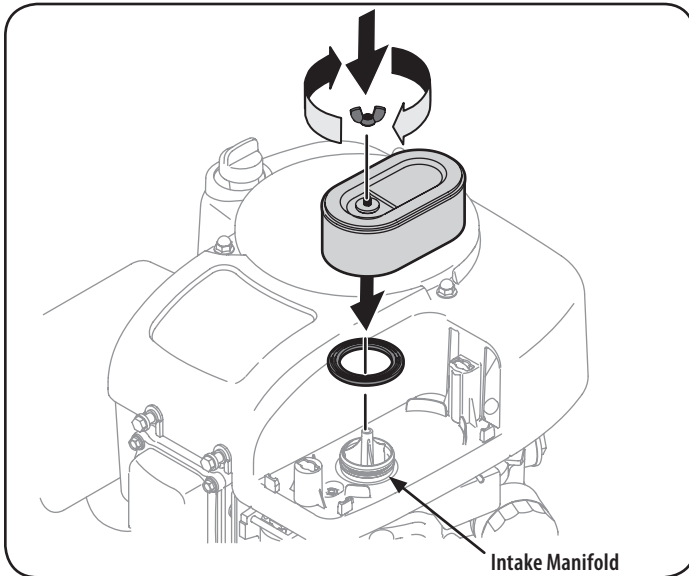

Figure 10
6. Attach the new air filter with foam element, aligning the hole in the air filter with the intake manifold. See "Figure 10". Secure with thumb screw.